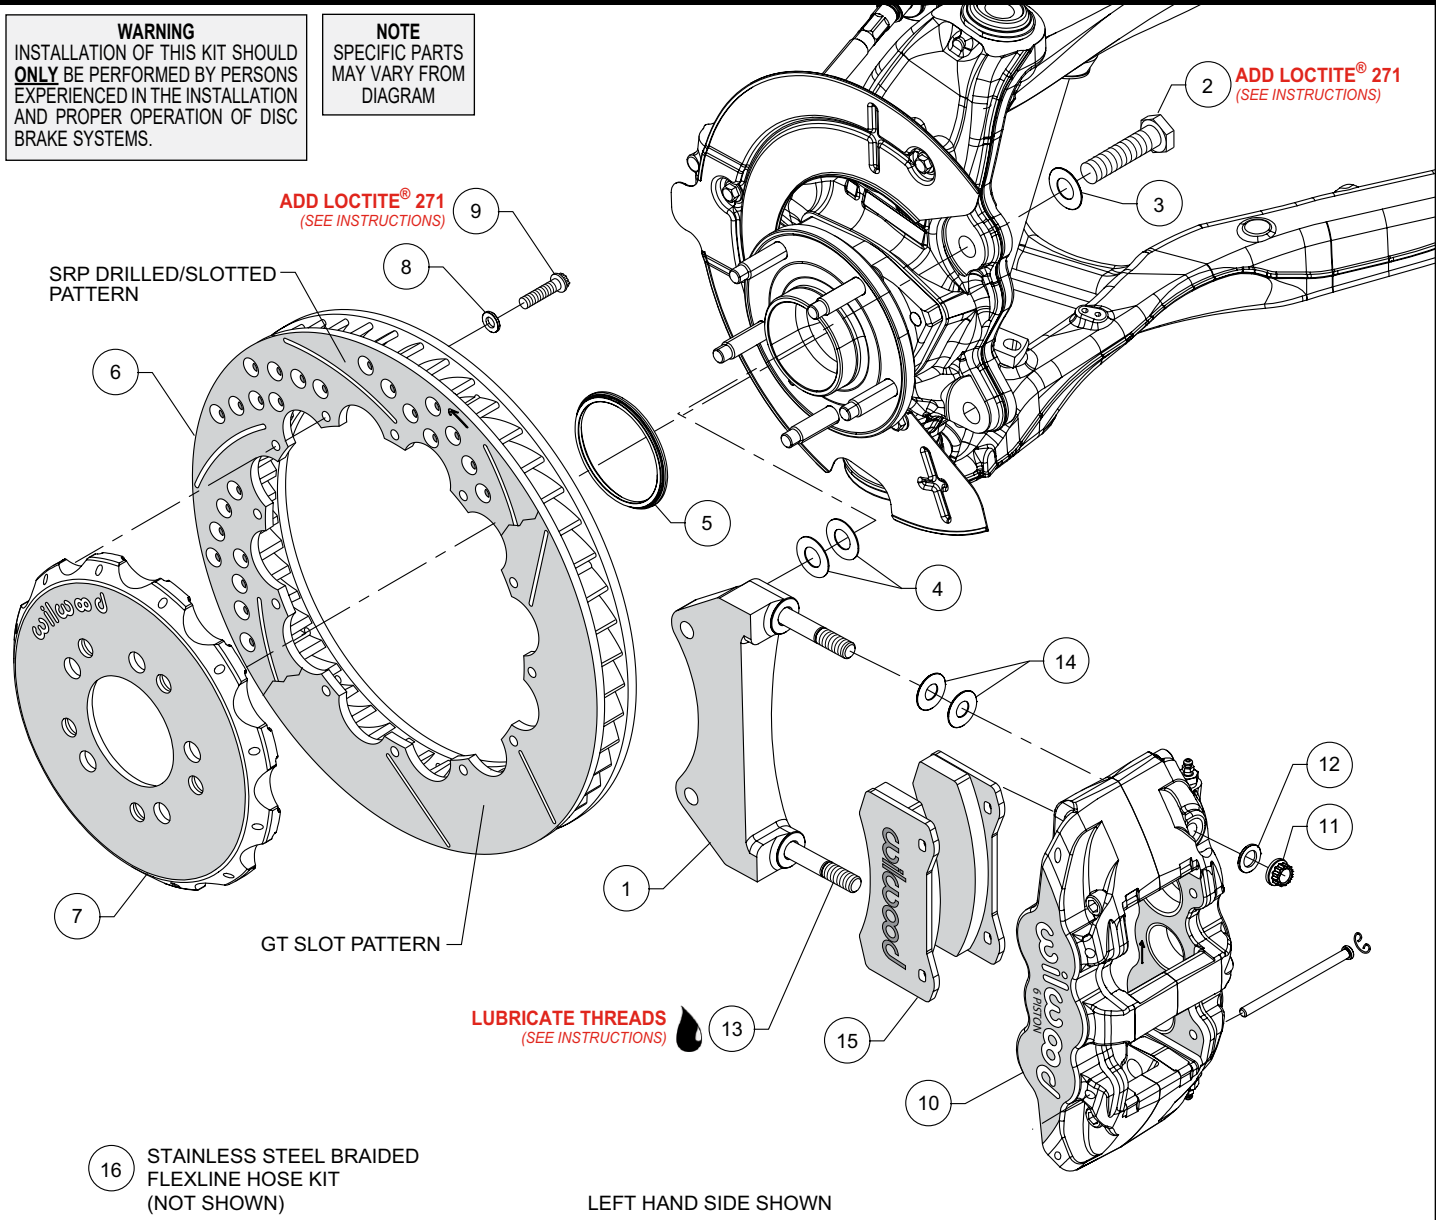
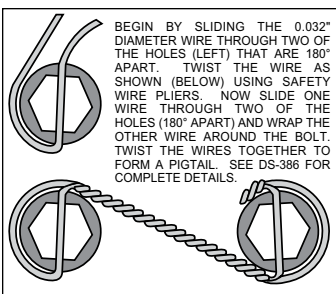

Figure 1. Typical Installation Configuration
Figure 3.
NOTE: Numbers in parenthesis refer to the parts list and Figure 1 on the preceding pages.
- The caliper mount bracket (1) should initially be installed with clean, dry threads on the mounting bolts. Orient the bracket as shown in Figure 1, and Photo 1 and install using bolts (2) and washers (3). Initially place two .029" thick shims (4) on each bolt between the bracket and upright, Figure 1. Temporarily tighten the mounting bolts. **NOTE:** *The bracket must fit squarely against the mount bosses on the upright.* Inspect for interference from casting irregularities, machining ridges, burrs, etc. Later, after the caliper alignment has been checked, the mount bolts will be secured using red *Loctite*® 271.
- Orient the rotor (6) and the hat (7) as shown in Figure 1 and Photo 2. Attach rotor to hat using bolts (9) and washers (8). Apply red *Loctite*® 271 to the bolt threads and torque to 155 **in-lb** using a criss-cross pattern. For an added measure of security, the bolts may be safety wired using standard 0.032 inch diameter stainless steel safety wire as shown in Figure 3. Please refer to Wilwood's data sheet DS-386 (available at www.wilwood.com/Pdf/DataSheets/ds386.pdf) for complete safety wire installation instructions.
- Slide the rotor registration adapter (5) onto the axle register on the axle hub with the smaller O.D. facing outward, Photo 3. Slide the hat/rotor assembly onto the axle hub. **NOTE:** *The hat must fit flush against the axle hub flange or excessive rotor run out may result.* Install three lug nuts (finger tight) to keep the hat/rotor assembly in place while continuing with the installation, Photo 4.
- NOTE:** *This kit contains distinct right and left hand calipers that must be mounted in a specific direction, as described below.* Lubricate the caliper mounting studs (13) with lightweight oil. Initially place two .030" thick shims (14) on each stud as shown
in Figure 1 and Photo 5. Mount the caliper (10) onto the bracket (1) using lock nuts (11) and washers (12), Figure 1. Ensure that the caliper is mounted so that the largest pistons are at the rotor exit end of the caliper, in relation to the direction of rotor rotation. Temporarily tighten the lock nuts and view the rotor through the top opening of the caliper. The rotor should be centered in the caliper, Photo 6. If not, adjust by adding or subtracting shims (4) between the bracket and the upright. Always use the same amount of shims on each of the two mounting bolts. Once the caliper alignment is correct, remove the bracket mounting bolts (2) one at a time, apply red *Loctite*® 271 to the threads, and torque to 77 ft-lb.
- Remove the two pad retaining pins from the caliper (10) by carefully popping out the pin retaining clips and sliding out the pins. Insert the brake pads (15) into the caliper from the bottom, Figure 1 and Photo 7. With the friction material facing the rotor, secure the brake pads in place with the pad retaining pins and clips, Photo 8. Reinstall the caliper onto the caliper mounting bracket and temporarily tighten the lock nuts. Check that the top of the brake pad is flush with the outside diameter of the rotor, Photo 9. If not, adjust by adding or subtracting shims (14) between the caliper and the bracket. After the caliper pad height is set, torque the caliper lock nuts (11) to 47 ft-lb.
- **NOTE:** OEM rubber brake hoses generally cannot be adapted to Wilwood calipers. The caliper inlet fitting is a 1/8-27 NPT (use PTFE tape on pipe threads for proper sealing to caliper). Install Wilwood's stainless steel braided flexline hose kit (16), P/N 220-9100 included with this kit as shown in Photo 10. **Carefully route hoses to prevent contact with moving suspension, brake or wheel components.** **NOTE:** Wilwood hose kits are designed for use in many different vehicle applications and it is the installer's responsibility to properly route and ensure adequate clearance and retention for brake hose components.